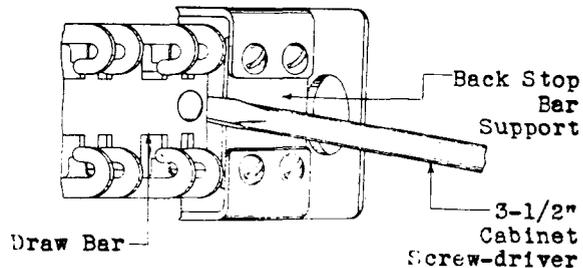

Fig. 14 - Method of Relieving Draw Bar Link of Spring Load
(1) To tighten loose spring assembly screws remove the spring assembly from the mounting plate as follows. First note the separation between any pair of contacts for use as a reference when replacing the back stop bar, which must be removed in making this adjustment. Then, using the 3-1/2" cabinet screw-driver, remove the two screws which hold the back stop bar support to the magnet frame and also the back stop bar clamping screw or screws at the end of the back stop bar farther from the magnet. Do not loosen the back stop bar clamping screw at the magnet end. Remove the back stop bar by pulling the end farther from the magnet forward and then sliding the back stop bar support from behind the prongs of the magnet frame towards the contact springs.
(2) Relieve the draw bar link of the spring load and disconnect it from the draw bar as follows: Insert the 3-1/2" cabinet screw-driver between the draw bar and the adjacent back stop bar support farther from the magnet, as shown in Fig. 14, and move the draw bar toward the magnet by twisting the screw-driver. Grasp the draw bar link with the long nose pliers and disconnect it from the draw bar pin. Do not turn the draw bar adjusting nut.
(3) Remove the locating spring from the shoulders of the draw bar at the end farther from the magnet, simultaneously pressing the draw bar pin inward, thus permitting the other end of the draw bar to move outward. Remove the remaining locating spring from the draw bar. Grasp the draw bar near the pin with the fingers, and pull it outward in such a manner that the tangs of the back stop springs pass through the slots of the draw bar.
(4) Unsolder the wires from the terminals of the spring assembly requiring ad-
(9) Insert the 3-1/2" screw-driver between the end of the draw bar farther from the magnet and the adjacent back stop spring support as shown in Fig. 14, and move the draw bar toward the magnet by twisting the screw-driver. Replace the draw bar link over the draw bar pin.
(10) Replace the back stop bar by inserting the back stop bar support attached to the back stop bar behind the prongs of the magnet frame. Then gradually worm the back stop bar into place exercising care that each spring is engaged by the proper slot in the back stop bar. Replace the two screws which hold the back stop bar support to the magnet frame, locating the back stop bar so that the separation between the contacts previously taken for reference, as outlined in (1), is the same as it was before any screws were loosened or removed, and then tighten the two screws securely. Replace and securely tighten the back stop bar clamping screw or screws.